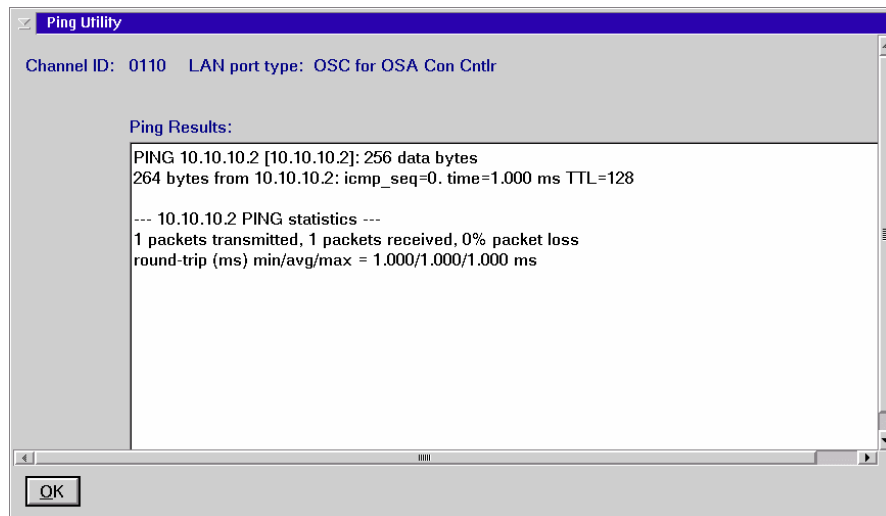

Figure 4-9 Ping utility results
2. On the Ping Utility panel, enter the client workstation's IP address and click **OK**. The Ping Utility results panel is displayed (see Figure 4-9).